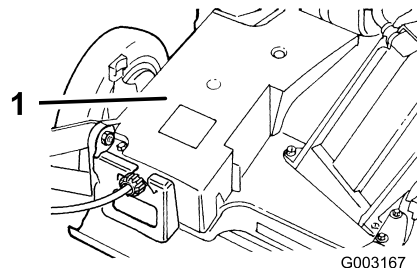

Figure 40
2. Remove the bolts that secure the belt cover (Figure 40) to the lawn mower housing.